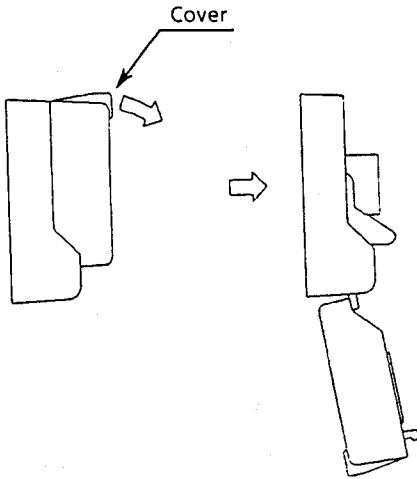

Fig. 5-1
1. Open the cover of the protective cap (see Fig. 5-1).